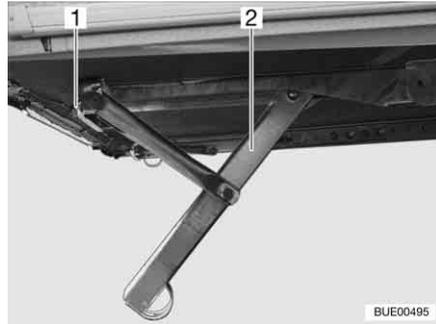
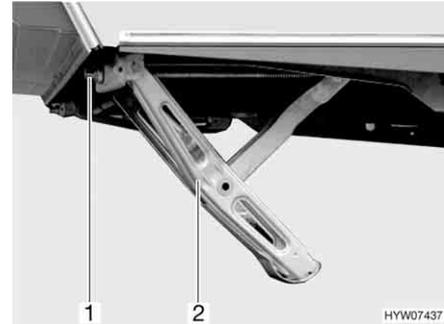

Fig. 22 Corner steady cranked down (variant 1)
Fig. 23 Corner steady cranked down (variant 2)
- Place the hand crank handle provided as standard on the hexagonal nut (Fig. 22,1, Fig. 23,1 or Fig. 24,1) of the corner steady (Fig. 22,2, Fig. 23,2 or Fig. 24,2).